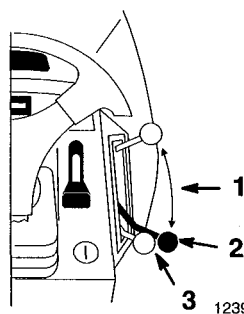

Figure 5
3. Move ground speed selector to “N” (Fig. 5).